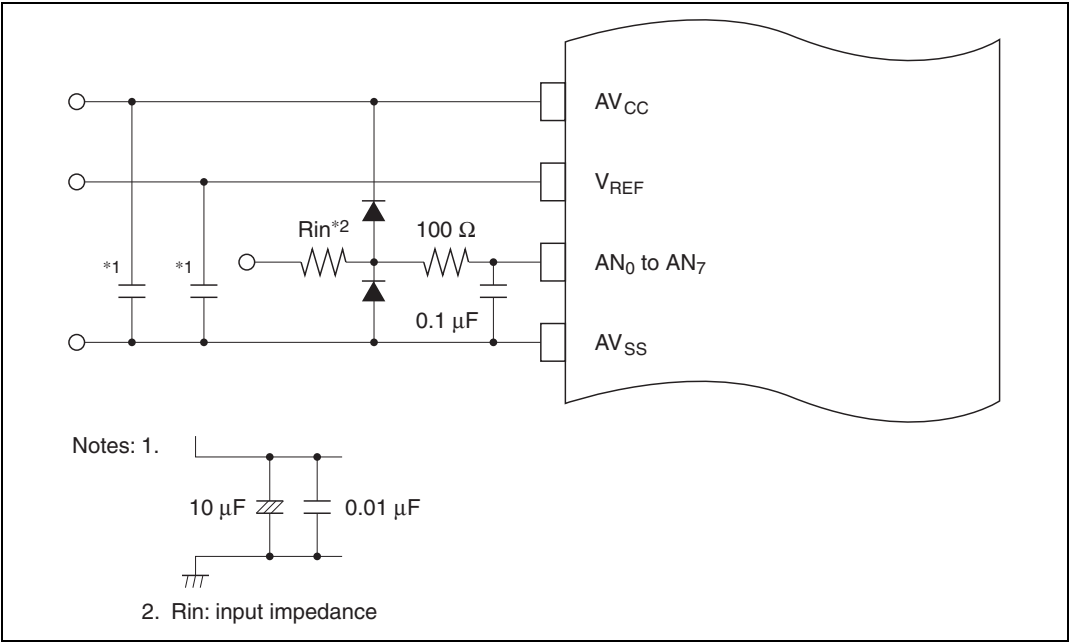

Figure 15.7 Example of Analog Input Protection Circuit
5. **Note on Noise:** To prevent damage from surges and other abnormal voltages at the analog input pins (AN_0 to AN_7) and analog reference voltage pin (V_{REF}), connect a protection circuit like the one in figure 15.7 between AV_{CC} and AV_{SS} . The bypass capacitors connected to AV_{CC} and V_{REF} and the filter capacitors connected to AN_0 to AN_7 must be connected to AV_{SS} . If filter capacitors like the ones in figure 15.7 are connected, the voltage values input to the analog input pins (AN_0 to AN_7) will be smoothed, which may give rise to error. Error can also occur if A/D conversion is frequently performed in scan mode so that the current that charges and discharges the capacitor in the sample-and-hold circuit of the A/D converter becomes greater than that input to the analog input pins via input impedance R_{in} . The circuit constants should therefore be selected carefully.